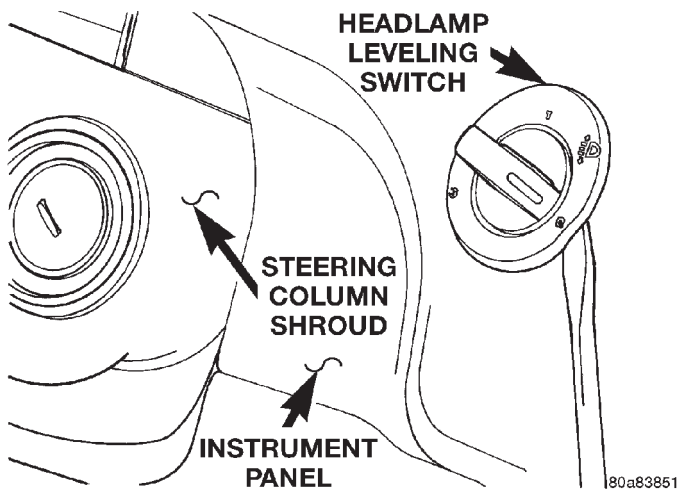

Fig. 7 Headlamp Leveling Switch
- (2) Using a trim stick or other suitable wide flat bladed tool, pry gently around the edges of the headlamp leveling switch (Fig. 7).